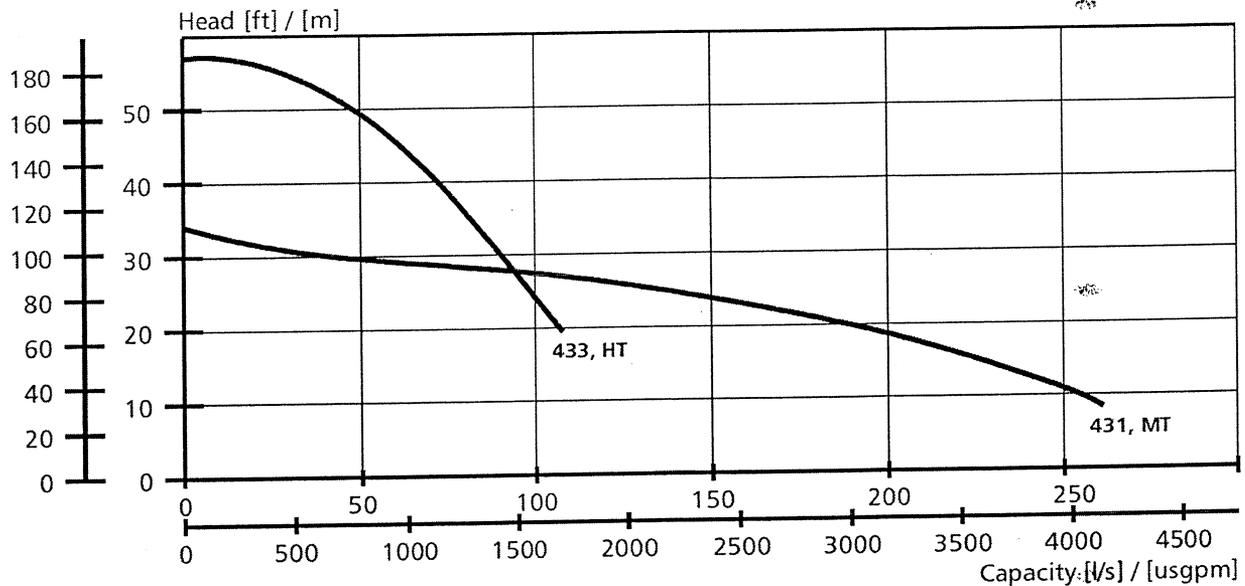

Figure 5.1 Pump characteristics (head and flow rate) for high head (433, HT) and high volume (431, MT) versions.
5.1 A mine has chosen to use in-pit pumps in a sinking cut sump to remove water. There are two of the same type of pump available with the characteristic curves shown in Figure 5.1. below. The pumps can be used in high volume (MT) or high head (HT) configuration. The pumps can also be used submersible (with a screen adaptor around the intake) or in series (tandem) with a pipe adaptor at the inlet such that the pump inlet may have a pressure.
5.1.1 From the graph, Fig. 5.1, will the high volume pump configuration (431, MT) be used for both pumps.